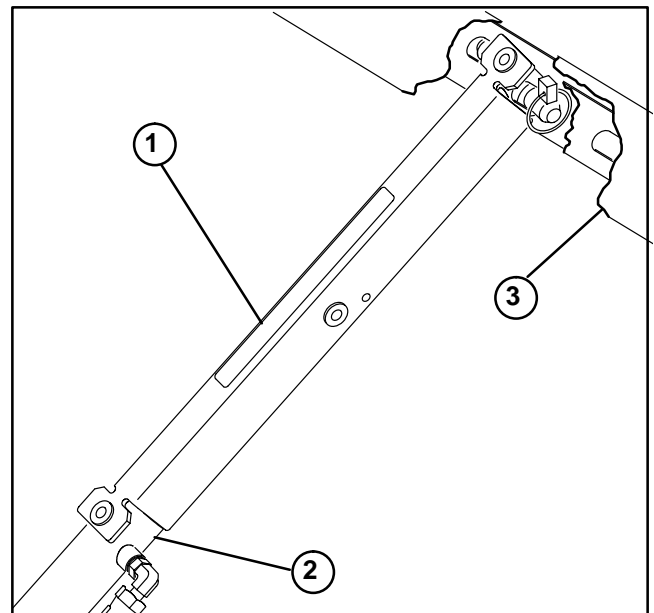

Figure 4
3. Push bed support onto cylinder rod, making sure support end tabs rest on end of cylinder barrel and on cylinder rod end (Fig. 4).